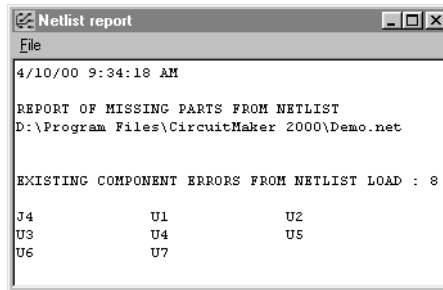

Figure 6.4. Using the Netlist report, you can determine what if any problems there are in your netlist.
- View details of errors Displays a netlist report that you can use to help resolve any errors contained in the netlist (see Figure 6.4)